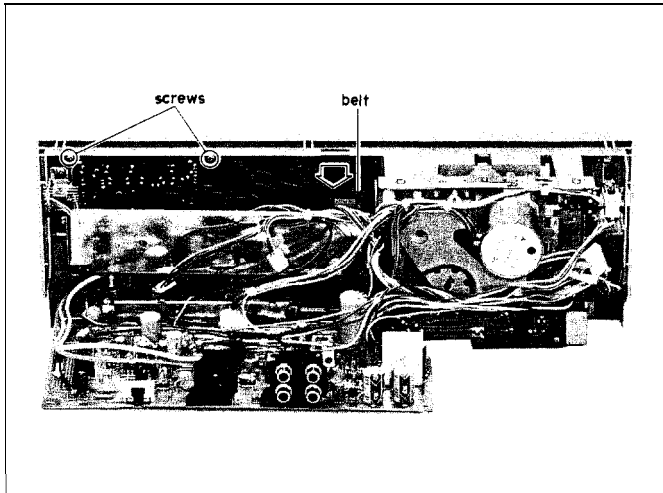

Figure 6-1
2. Remove the tape counter drive belt from the magnet pulley. (Refer to Figure 6-1.)
3. Let down the tab retaining the microcomputer block, and remove the two (2) screws from the microcomputer block. (Refer to Figure 6-1.)